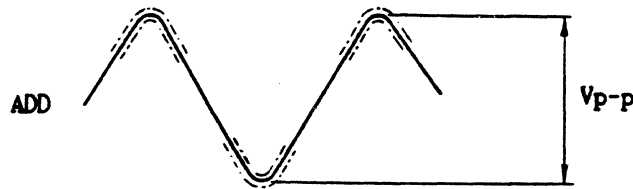

Figure 4-9 Average Read Level Measurement (2F)
5. Measure the average Read Level value ( $V_{p-p}$ ), refer to Figure 4-9.